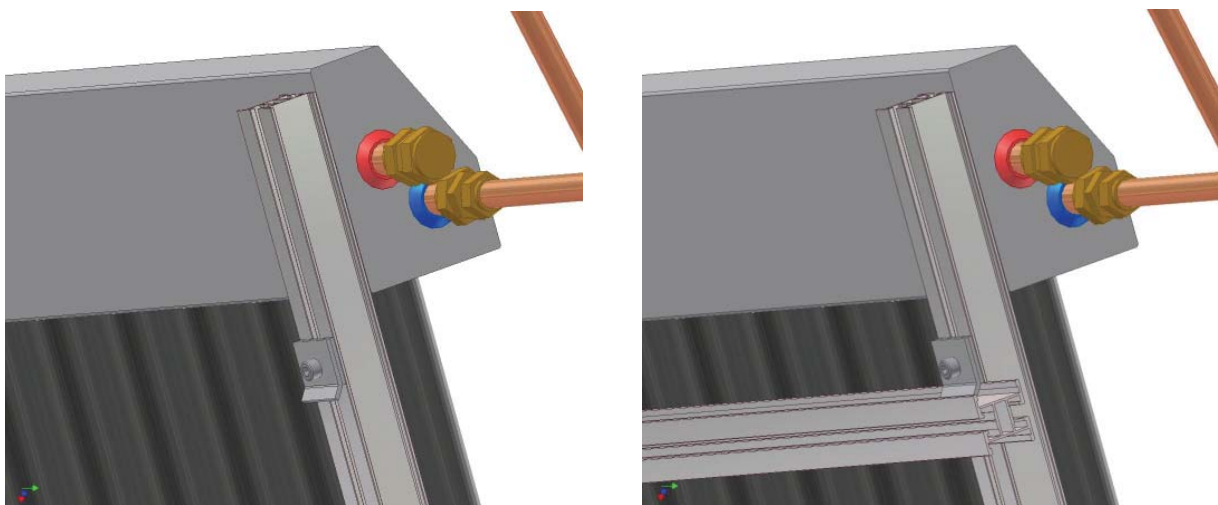

Fig. 12b: fixing a collector to an rail
- place the first collector onto the rails, secure it to the upper rail by means of the fixing plates located at its rear side (see Fig. 12b)